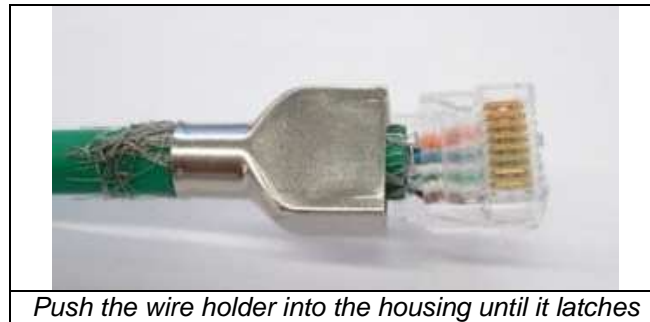

Figure 10
7. Push the wire holder into the housing, making sure it arrives up to the end. See Figure 10.